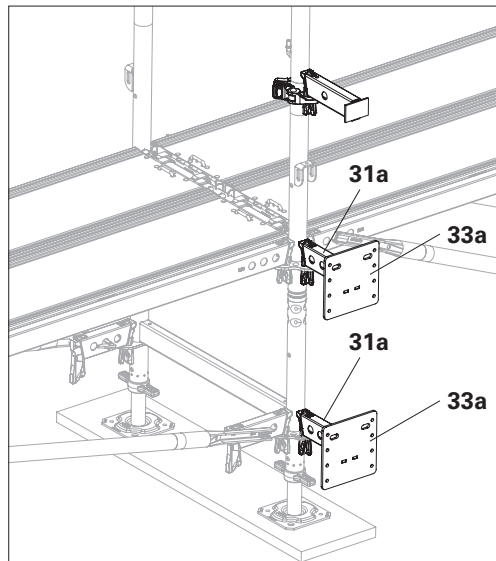

Fig. C4.06
1. Mount the multi-console brackets (**33a**) with Horizontal Ledger UH-2 25 (**31a**) on the standard. (Fig. C4.06)